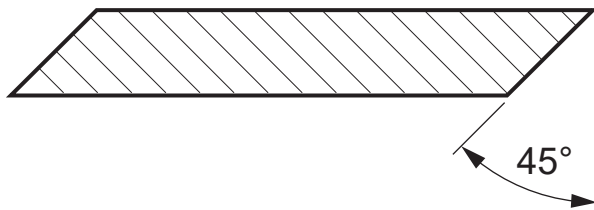

Figure 30—Sharpen a rotor knife
5. Use a grinder to sharpen the cutting edge of the rotor knife. Sharpen the cutting edge to a 45-degree angle. See *Figure 30*.